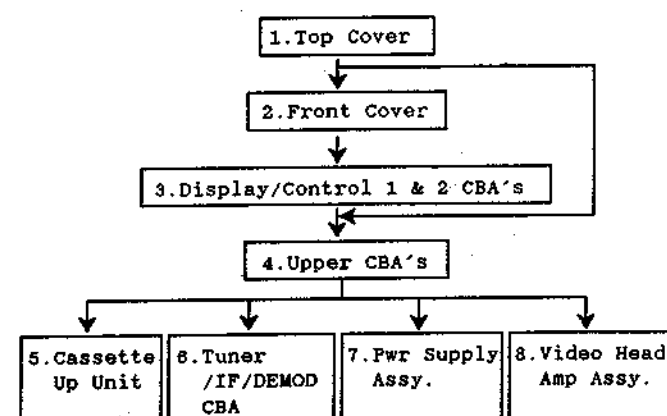

Fig. 10
- The following flow chart indicates the correct order to be used when disassembling the VCR (Fig. 10).